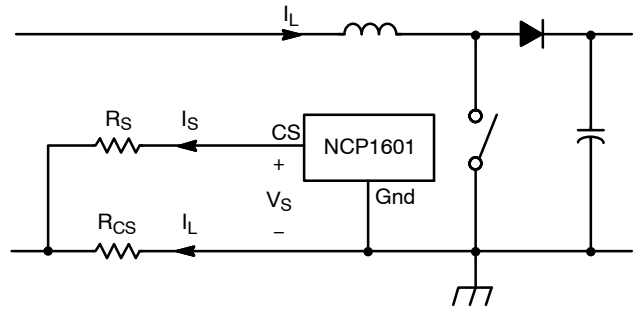

Figure 32. Current Sensing
The device senses the inductor current I_L by the current sense scheme in Figure 32. This scheme has the advantages of: (1) the inrush current limitation by the resistor R_{CS} , and (2) the overcurrent protection and zero current detection implemented in the same pin.
Inductor current I_L passes through R_{CS} and creates a negative voltage. This voltage is measured by a current I_S flowing out of the CS pin (Pin 4). The CS pin has an offset voltage V_S . This offset voltage is studied in the setting of zero inductor current $I_{\text{L(ZCD)}}$ and the maximum inductor current $I_{\text{L(OPC)}}$ (i.e., overcurrent protection threshold). A typical variation of offset voltage V_S versus sense current I_S is shown in Figure 15. Higher the value of the offset voltage at low current region creates lower the zero current threshold for better accuracy. Based on Figure 32, (eq.13) is derived.